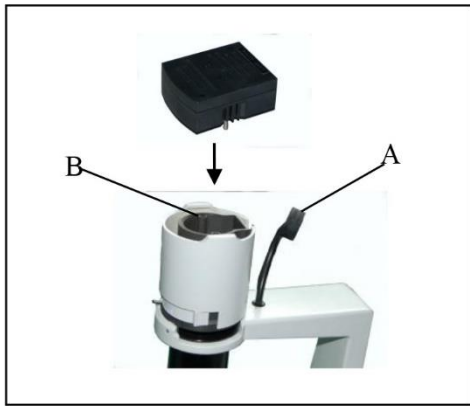

Figure 4
2.2.4. Installing lamp house (Figure 4, Figure 5)